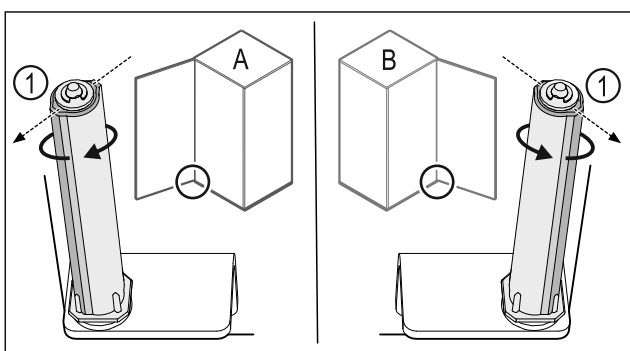

Fig. 23 Left-hinged (A) / Right-hinged (B)
- ▶ Turn the closing system against the resistance until the bar of the closing system Fig. 23 (1) points outwards.